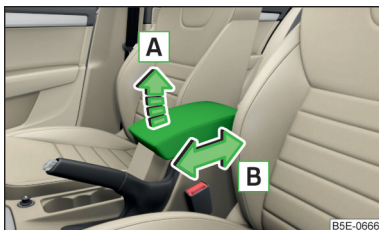

Fig. 68
- To **adjust the height**, lift the armrest in the direction of the arrow **A** into one of the locking positions » Fig. 68.